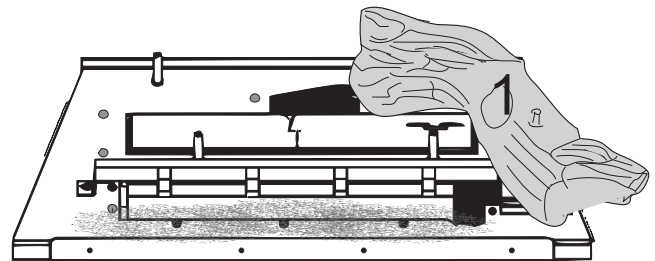

Figure 2 - Log #1 Placement
2. Place log #1 on the right-hand side of the burner assembly by positioning the pin locator hole on the bottom of the log over the pin on the right-hand side of the burner and by rotating the log clockwise toward the back to contact the rear bend on the sheet metal of the burner assembly. With the log in place, make sure that the notch on the bottom of the log match up with the bracket on the grate. See Figure 2.